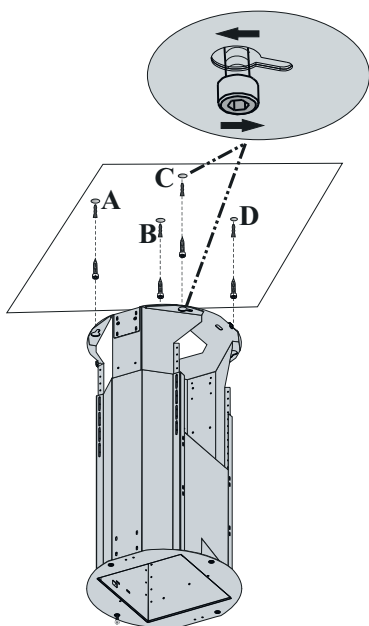

Fig. 14
- Hammer the $\text{\O}10$ mm plastic dowels into the holes you drilled for product installation (Fig. 14).
- Screw the 5.5 x 60 ysb screws into the plastic dowels you have hammered in earlier in such a way as to remain 5mm space between the screw head and the wall (Fig. 14).
- Slide the holes on the motor block that resemble key-holes onto the 5.5x60 ysb screws that you have screwed onto the wall and rotate the motor block clockwise (Fig. 14).
- After fitting the screw channels on the motor block onto the installation screws, tighten the screws and fix the motor block (Fig. 14).